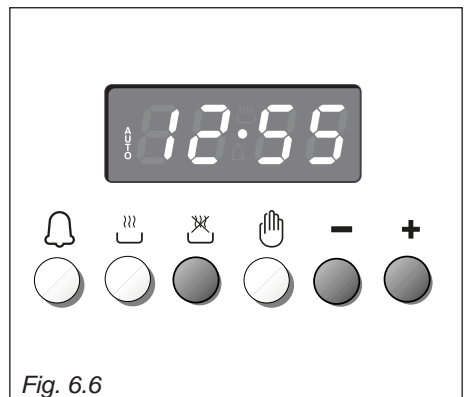

Fig. 6.6
2. Set the end of the cooking time by pressing the  button (the cooking time already added to the clock time will appear), and the  button (fig. 6.6); if you pass the desired time you may get back by pushing the  button. After this setting, the  symbol will disappear. If after this setting, the **AUTO** flashes on the display and a buzzer sounds, it means there was an error in the programming, that is that the cooking cycle has been superimposed on the clock. In this case, modify the end of cooking time or the cooking period itself by following again the above mentioned instructions.